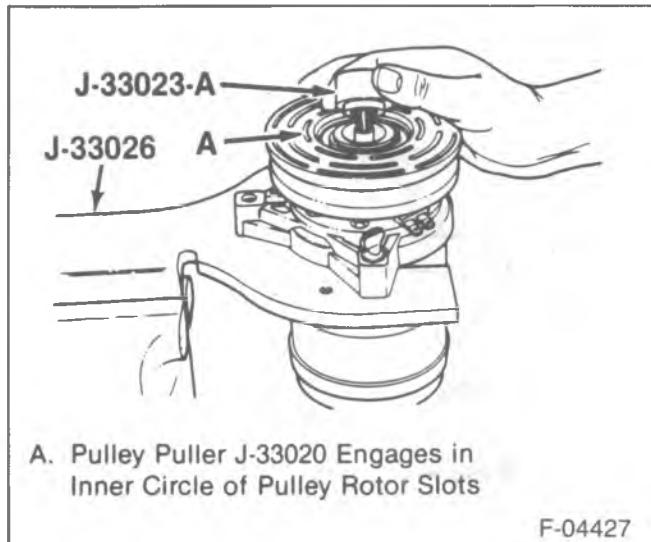

Figure 9—Installing the Puller Pilot and Pulley Rotor Slot Location
- Pulley (5).
- Install J-33023-A to the front head (figure 9).